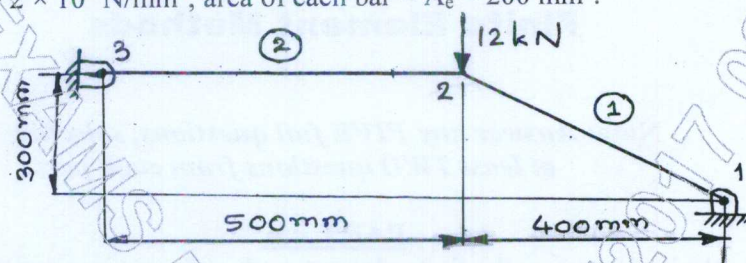

Fig.Q6(b)
b. For the two-bar truss shown in Fig.Q6(b), determine the nodal displacement, stress in each element and reaction at the support.